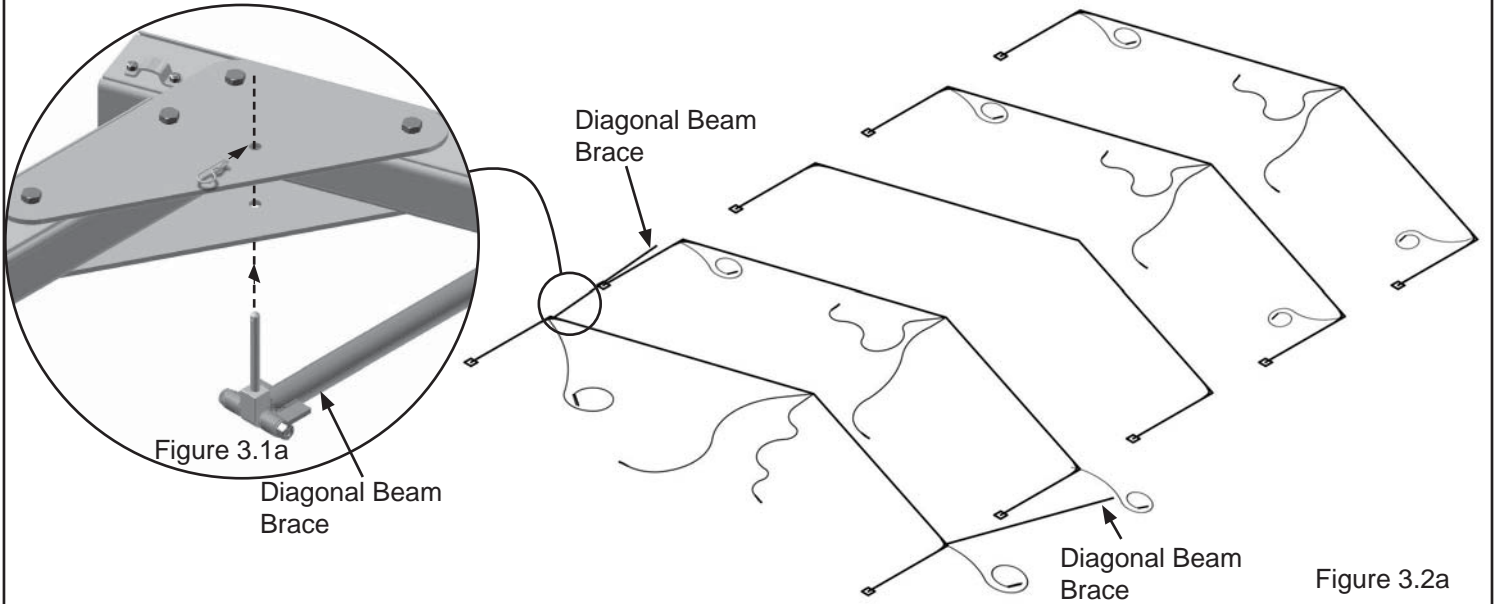

Figure 3.2a
3.1.2 Lay both of the Diagonal Beam Braces along and outside the second arch base plates as shown in Figure 3.2a.